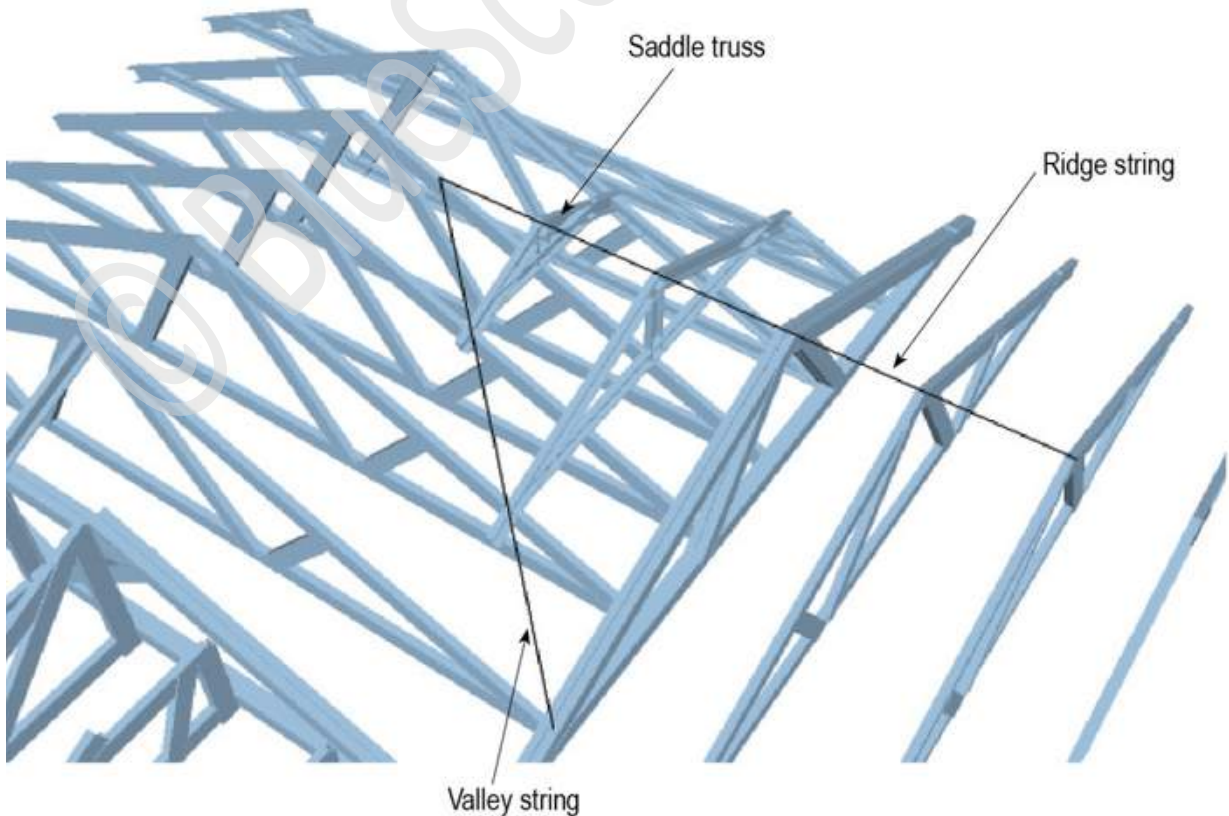

Figure 7.65 Saddle truss detail
Step 2: Fix a string line along the ridge line of your roof and down the valley lines to aid in the positioning of saddle trusses as shown in **Figure 7.65**.
Half trusses are connected onto the face of the barrel with an additional 5 x 12-14x20 hex head fasteners as per Figure 7.65. The fasteners can be screwed through the back of radial to truss if required. The load from the half truss is transferred to the barrel with these fasteners. Fasteners can also be installed from back of barrel.